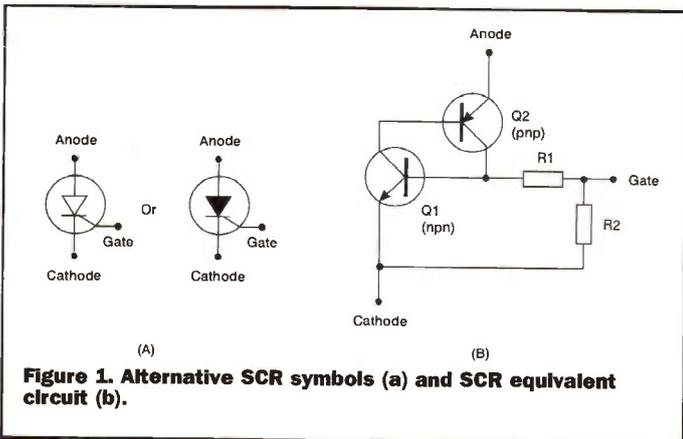
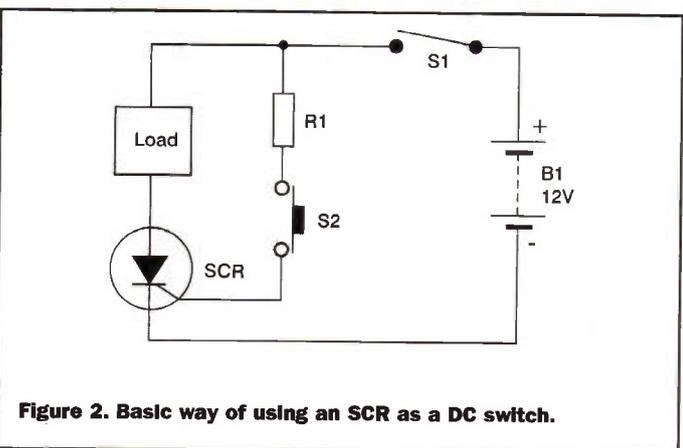

Figure 1. Alternative SCR symbols (a) and SCR equivalent circuit (b).
Figure 2. Basic way of using an SCR as a DC switch.
An SCR is a four-layer pnpn silicon semiconductor device. It has three external terminals (anode, gate, and cathode) and uses the alternative symbols of Figure 1(a) and has the transistor equivalent circuit of Figure 1(b). Figure 2 shows the basic way of using the SCR as a DC switch, with the anode positive relative to the cathode, and the SCR controlled via its gate. The basic characteristics
1. When power is first applied to the SCR by closing S1 in Figure 2, the SCR is 'blocked' and acts (between anode and cathode) like an open switch. This action is implied by Figure 1(b), i.e., Q2's base current is derived from Q1 collector, and Q1's base current is derived from either Q2 collector or the gate terminal; in the latter case no base current is available, so both transistors are cut off, and only a small leakage current flows from anode to cathode.
- S2; the SCR quickly (in a few microseconds) self-latches into the on state under this condition, and stays on even when the gate drive is removed. This action is implied by Figure 1(b); the initial gate current turns Q1 on, and Q1's collector current turns Q2 on, and Q2's collector current then holds Q1 on even when the gate drive is removed: a 'saturation' potential of 1V or so is generated between the anode and cathode under the on condition.
gate characteristics are similar to those of a transistor base-emitter junction (see Figure 1(b)).